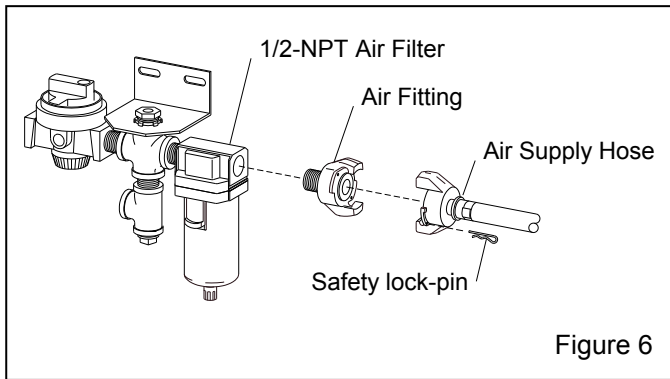

Figure 6
2.3.1 Refer to Paragraph 2.3.2 to determine the recommended air supply hose size, then refer to Figure 6 and apply thread sealant to the male threads of an air fitting that is compatible with the air supply hose fitting, and install it onto the 1/2-NPT air filter located under the cabinet hopper. **Note that the style of connection shown in Figure 6 is for reference only.**